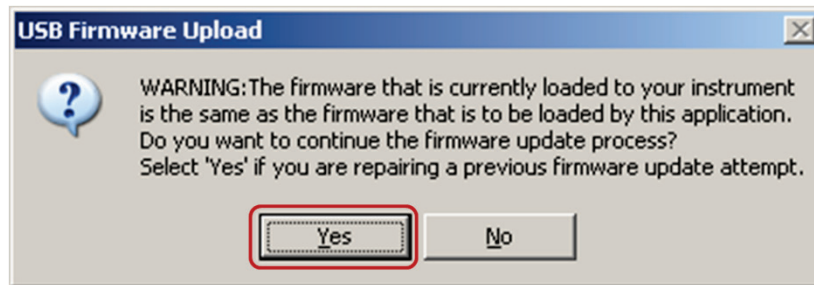

Figure 16
10. If the application detects that the firmware that is installed on the attached instrument is the same firmware that is being installed, a message will be displayed (Figure 16).